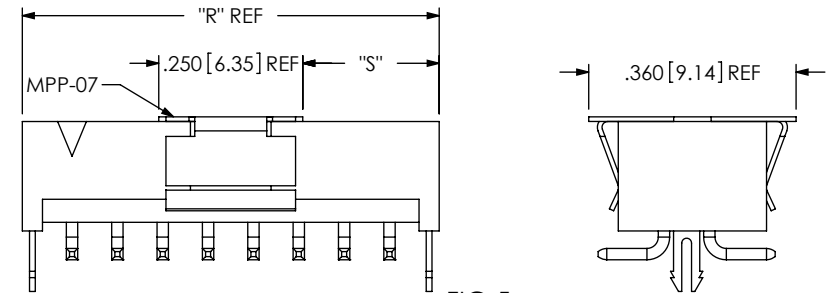

FIG 5
- M: METAL PICK AND PLACE PAD (USE MPP-07, SEE FIG 5, SHT 2) (-SM OPTION ONLY)